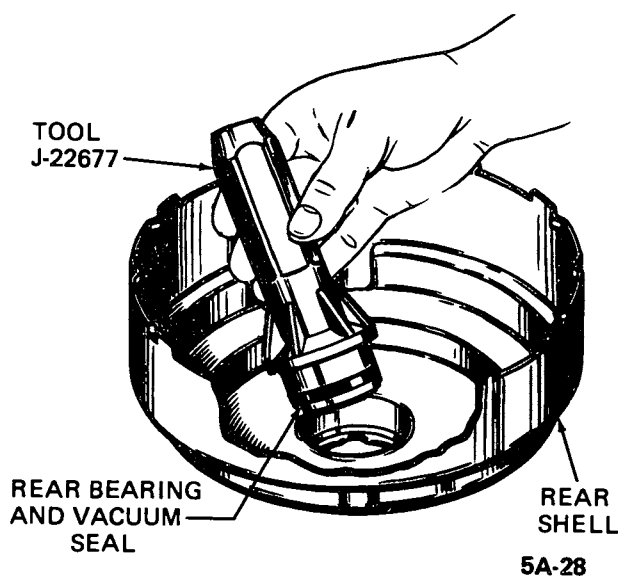

Figure 5A-28 Installing Rear Bearing and Vacuum Seal
1. If the rear bearing and seal were removed, press new bearing and seal into this cavity in the rear shell using Tool J-22677. See Figure 5A-28. The flat rubber surface of the seal should be  $\frac{5}{16}$ " below the flat, inside surface of the rear shell.